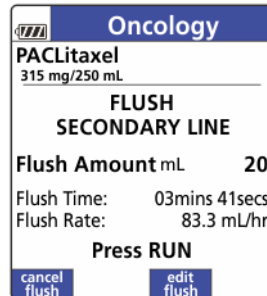

Figure 114. Enter Secondary Line Flush Volume. See important note on page 93.
3. Enter the desired flush amount to be delivered and press **OK**. See Figure 114.